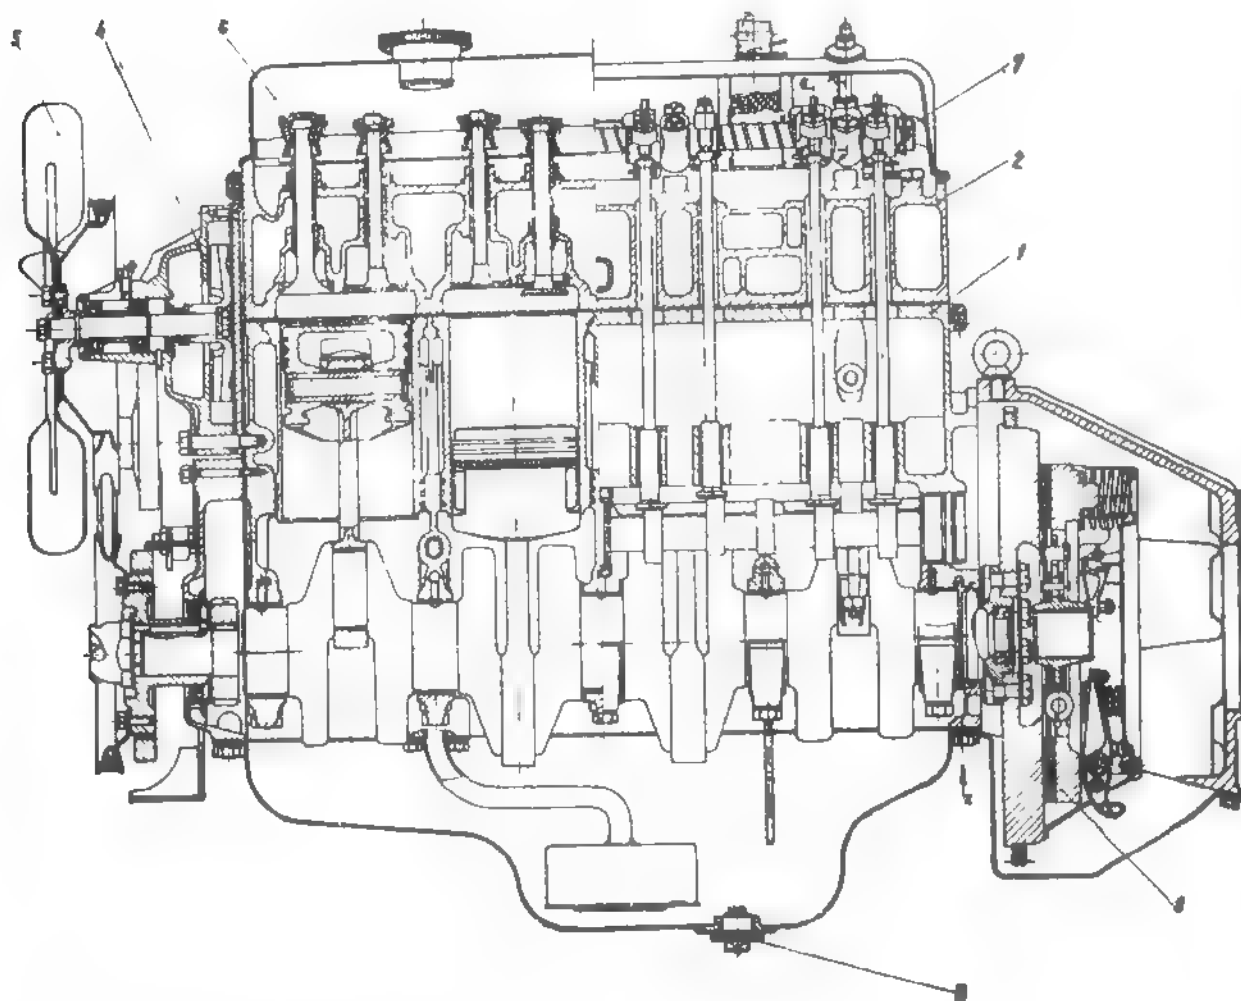

Fig. 4.1. - LONGITUDINAL SECTION OF ARO L-25 ENGINE
- The crankshaft, made of special high-strength nodular cast iron, is supported on 5 shell bearings, while the camshaft is made of the same special cast iron and rests on 3 anti-friction bushes (see fig. 4.1.).